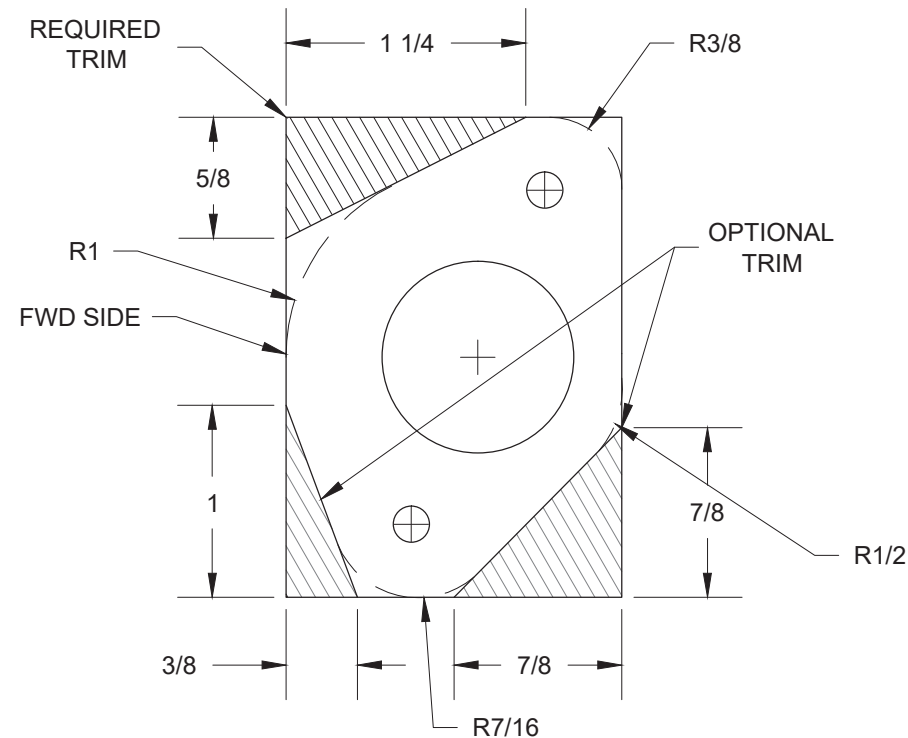

FIGURE 2: OPTIONAL TRIM OF UHMW BUSHING
Step 4: Trim the four F-1030 UHMW Bushings as per the callouts in Figure 2. Only one area **must** be trimmed for clearance while the other two areas are optional for a small weight reduction. It is acceptable to radius the corners of the UHMW bushings approximately as shown in Figure 2.